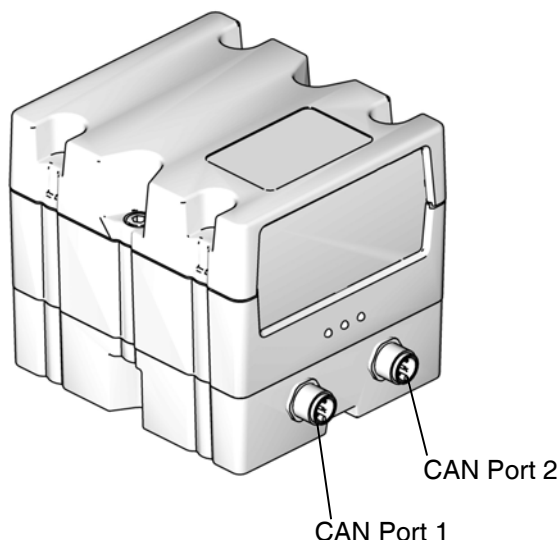

Fig. 63: CGM CAN Connections
6. Using the four 10-32 mounting screws included with the kit, mount the base (DD) in the holes you drilled.
7. Reattach the CGM (DC) on the base (DD) with the two screws (DB) that were removed in step 5.
8. Reattach the access cover (DA).
- b. If a CGM kit is used, connect the 1.5m CAN cable (122487) included in the CGM kit from either port on the CGM (1 or 2) to port C2 on the Power Junction Box (AJ). See FIG. 63 and FIG. 66.
- a. Disconnect the ADM cable connected to Port 1 on the Electric Driver on iQ Ram Supply Unit 1. Connect the cable to Port 1 on the CGM. See FIG. 63.
- b. Connect the 1.5m CAN cable (122487) included in the CGM kit from Port 2 on the CGM to the ADM splitter (124654). See FIG. 63.